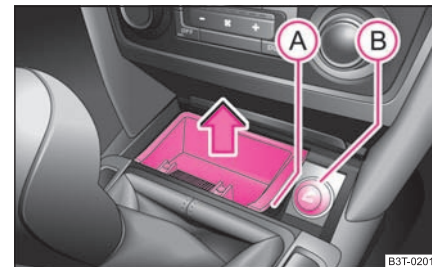
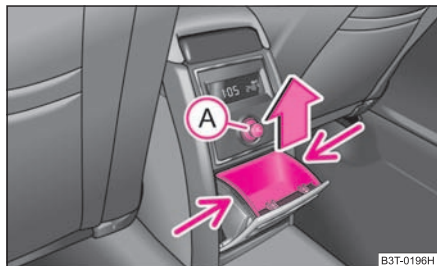

Fig. 88 Centre console: Front ashtray
Fig. 89 Centre console: Rear ashtray
- Grasp the ashtray insert at the point (A) ⇒ page 85, fig. 88 and take it out in direction of arrow.
- Grasp the insert at the points marked with the arrows ⇒ fig. 89 and take it out.
- Press the button of the lighter (A) ⇒ fig. 89 or (B) ⇒ page 85, fig. 88.